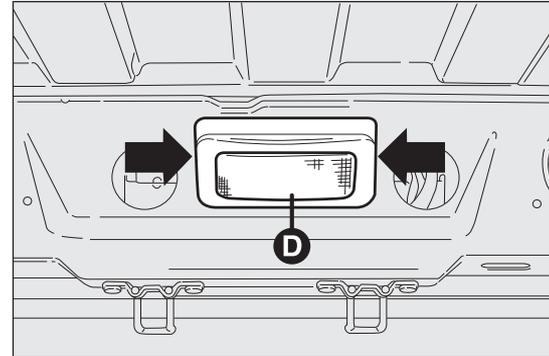
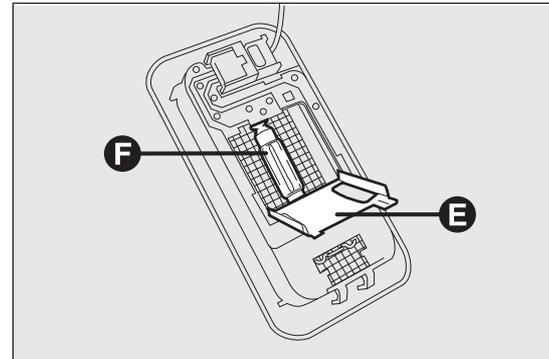

fig. 210
fig. 211
- operate in the points indicated by the arrows and remove roof light D fig. 210 ;
- open protective flap E fig. 211 ;
- replace bulb F fig. 211, releasing it from the side contacts and making sure that the new bulb is correctly locked between these contacts;
- close protective flap E fig. 211 and refit roof light D fig. 210 in its housing, making sure that it locks into place.